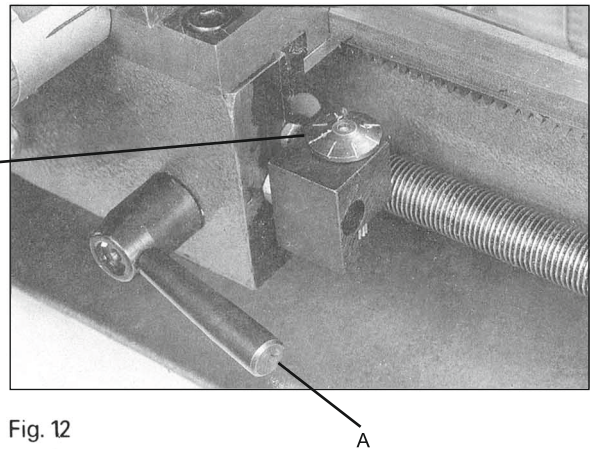

Fig. 12
Adjust the feeding direction selector to the direction you desire. Press down the handle (A) in figure 12, and continue with the automatic feeding procedure. When feeding, never try to change the feeding direction.
Select the feeding direction selector to the thread direction desired. Then press down handle (A) in figure 12 by matching the right calibrations on the thread dial indicator (B) and continue with the automatic threading procedure. When threading, never try to change the direction. Additional threading instructions are provided on pages 10-12.